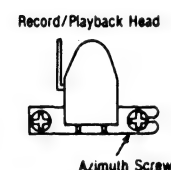

Fig. 8
2. After the adjustment, apply screwlock to the azimuth adjusting screw. (See Fig. 8)